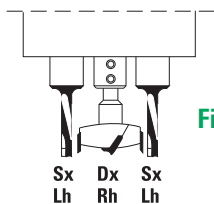

Fig. 3
Mount the right-hand rotation boring bit for hinges on the central bush and lock it with the screws (4), mount the left-hand rotation dowel drills on the lateral bushes and lock them with the screws (4) (see Fig. 3)